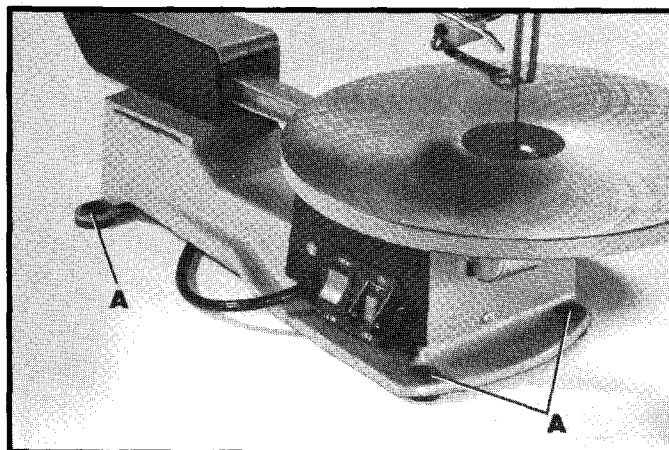

Fig. 17
Your scroll saw **MUST** be securely fastened to a stand or workbench using the holes in the four rubber feet, three of which are shown at (A) Fig. 17. **IMPORTANT:** When mounting the saw to a stand or workbench **DO NOT** over-tighten mounting bolts. Leave some cushion in the four rubber feet (A) for absorbing noise and vibration.